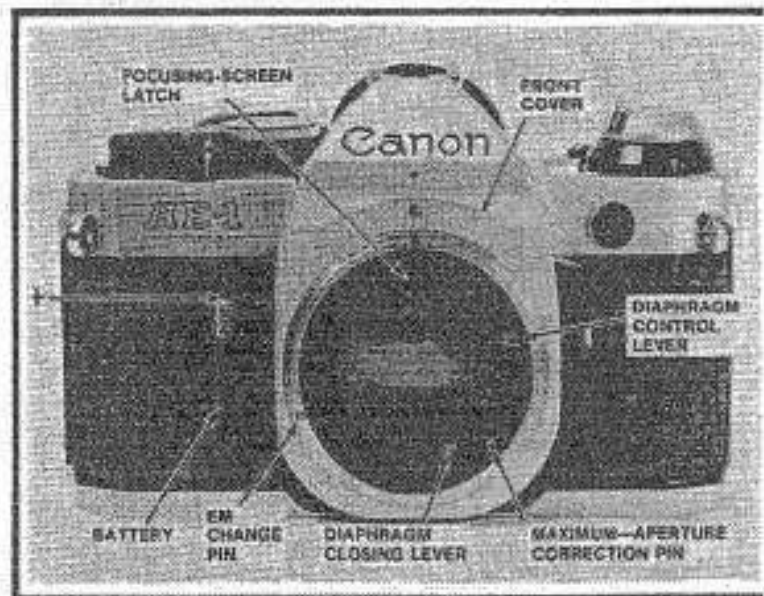

Figure 4
- **FOCUSING SCREEN:** Accepts interchangeable focusing screens. To remove the focusing screen, push up the latch at the top of the lens mount, Fig. 4. The standard screen is the E Type (split image and microprism). Other types available: A Type (microprism only), B Type (split-image only), C Type (all matte), D Type (matte with section lines), H Type (matte with scale), I Type (double crosshair reticle), and L Type (cross split image).
- Maximum-aperture resistor. Watch the f /stop LEDs as you push in the maximum-aperture correction pin, Fig. 4. The f /stop indication should step down smoothly to larger f /stops as the maximum-aperture correction pin moves in. If not, suspect a dirty maximum-aperture resistor or a defective IC4.